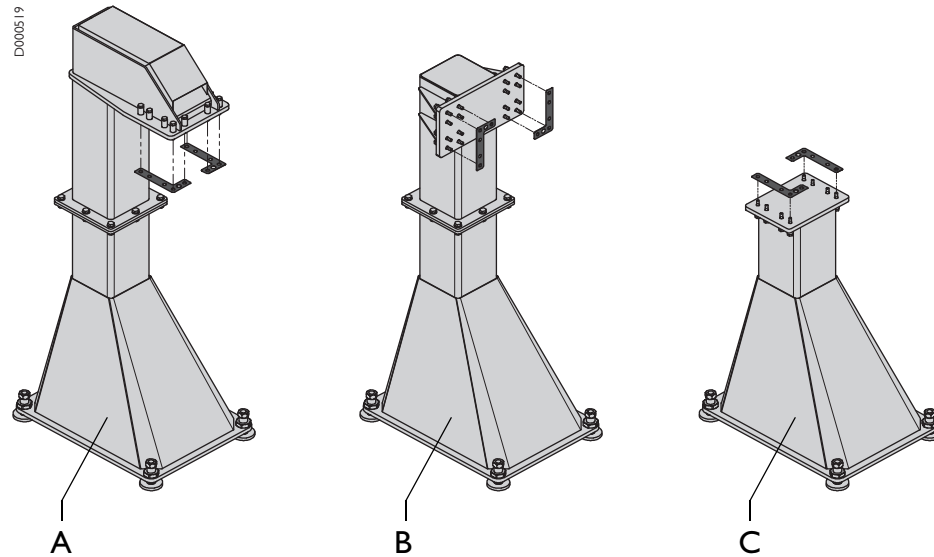

Fig. 5-5 Mounting spacer sheet metal
- 2 Mount spacer sheet metal as per Fig. 5-5, 33